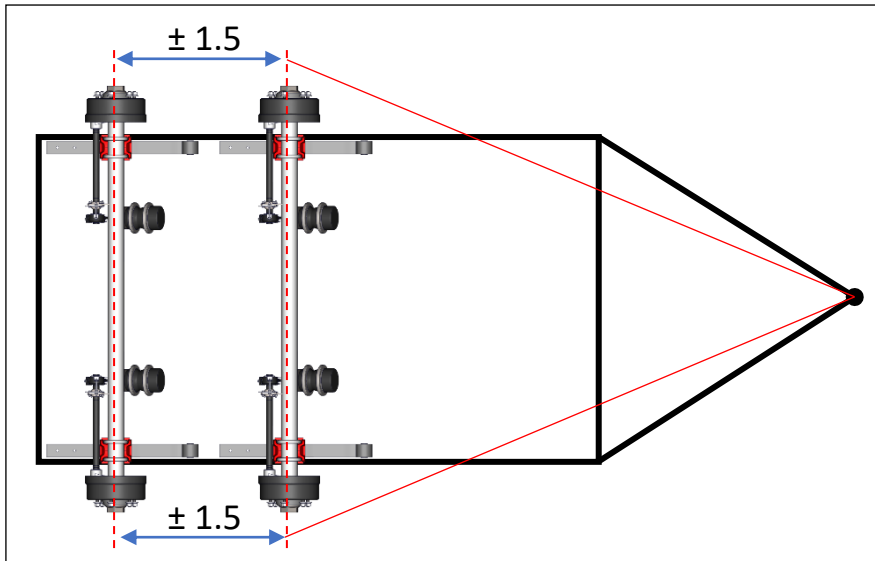

Fig 15a
15. Once axle and chassis have been assembled ensure accurate alignment (Fig 15a) at ride height. Then the pivot bolt, shock absorber and airbag bolts can be tensioned to correct torque.